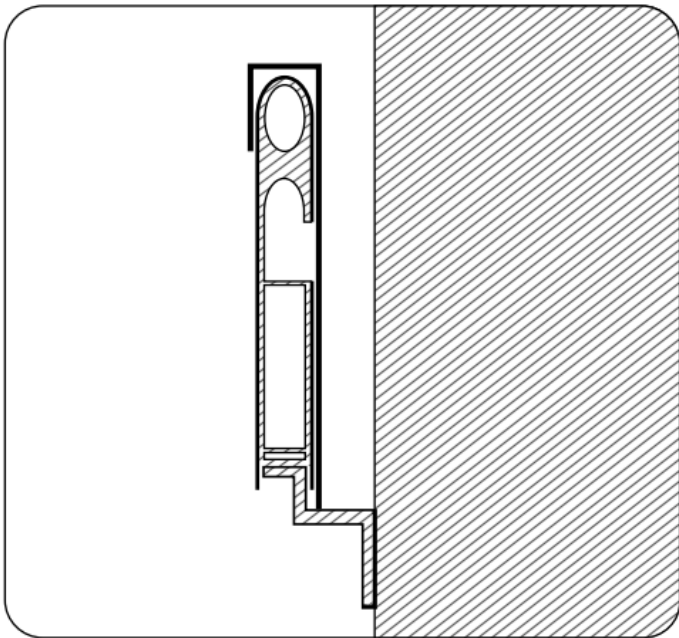

Figure 18
3. Hang up the screen following the diagram (see Figure 18).